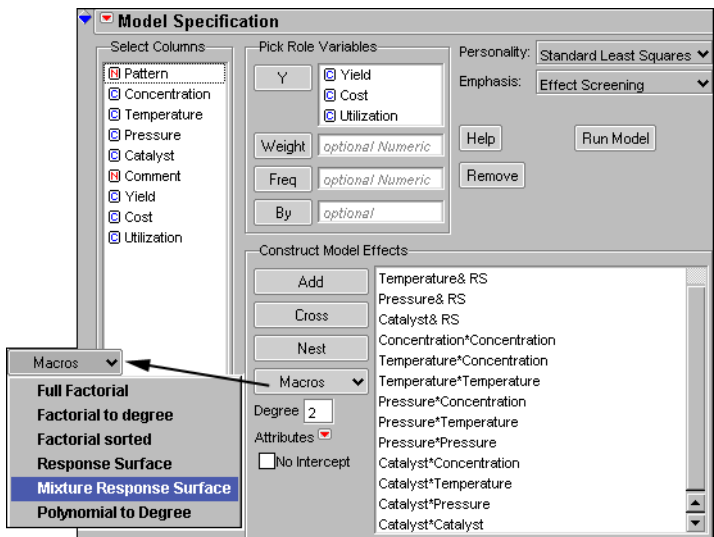

Figure 16: The Macros menu on the Fit Model dialog.
3. To build all effects in one step, select the four factors. Then, from the **Macros** menu on the Fit Model dialog, select **Response Surface** (Figure 16).